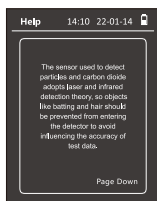

fig.26
1. Help: Press ▲ or ▼ to view the information that help you use the detector. Press ↵ to back to set interface(fig.26).